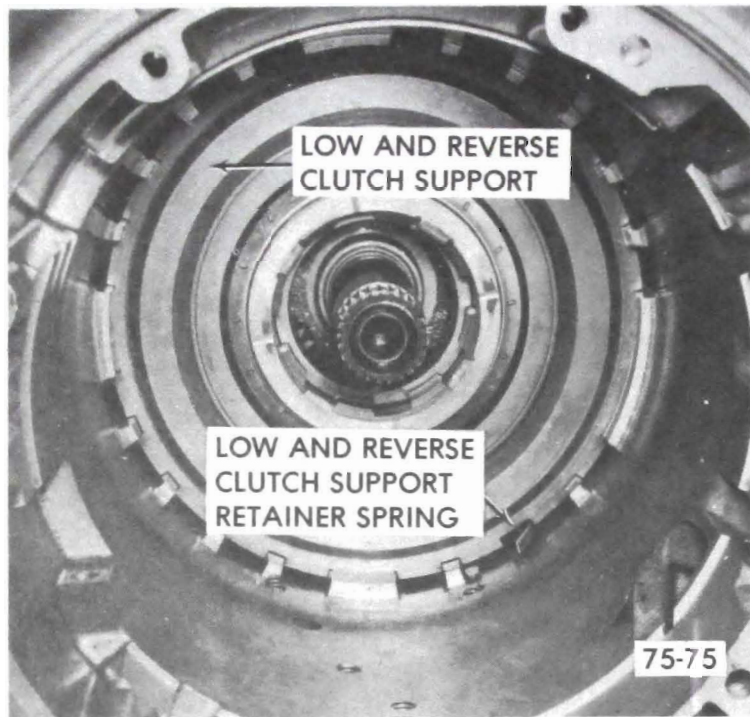

Figure 75-234
3. Install low and reverse clutch support assembly pushing firmly until support assembly is seated past top of low and reverse clutch support retainer spring and retaining ring can be installed. See Figure 75-234.